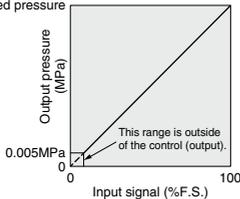

Figure 1. Input/output characteristics chart
- Note 1) Please refer to Figure 1 for the relationship between set pressure and input. Because the maximum set pressure differs for each pressure display, refer to page 853.